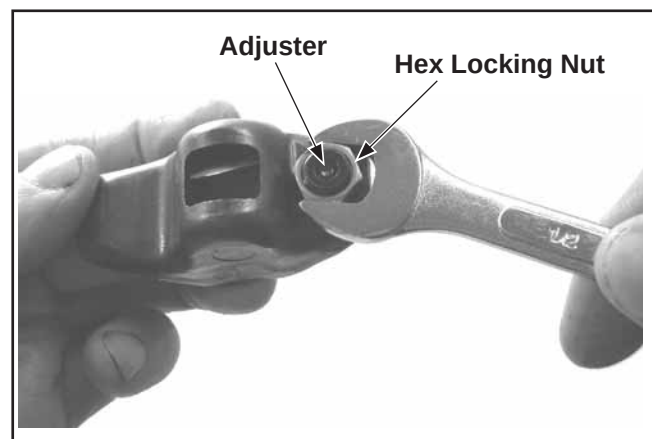

Figure 10-47. Loosing Nut and Backing Off Adjuster.
1. Loosen the hex locking nut and back off the adjusters for the rocker arms. If the adjusters for the rocker arms were removed, reinstall them into the threaded end of arm approximately three threads and screw the hex locking nut onto the adjuster from the underside. Screw adjuster flush with the bottom of the nut as an initial setting. Do not tighten the locking nut at this time, final adjustment will be made later. See Figure 10-47.